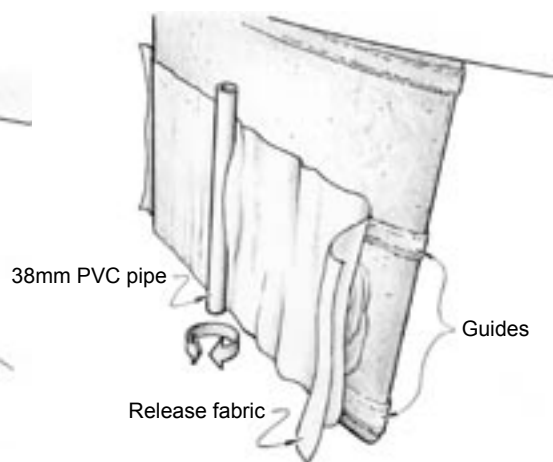

Figure 8-7 Using the cast template profiles as guides, drag a batten across the profiles to level the fresh epoxy mixture flush with the three profiles.
10. Lay a precut piece of release fabric over the fairing compound - the fabric should be large enough to cover the entire area from guide to guide. Cut a length of PVC pipe (diameter between 36-40mm) to span two of the guides and with this "tool", shape the fairing mix flush with the guides. Beginning in the middle of the foil, roll the pipe back and forth as you would a rolling pin, forcing the fairing compound under the release fabric toward the leading and trailing edges of the foil (*Figure 8-7*). Adjust the angle of the pipe as you approach the edges of the foil to finish with the pipe parallel to the leading and trailing edges. With the correct amount of fairing compound, a small amount of excess will squeeze from the leading and trailing edge. To give adequate working time in warmer temperatures, use 206 or 209 Hardener. Allow the fairing mix to cure thoroughly.